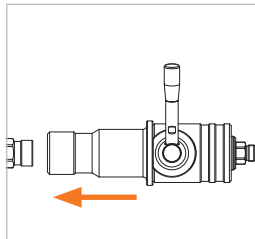

Figure 3
- ▶ Push the fueling nozzle onto the receptacle on the vehicle until it stops and hold the nozzle in this position (OFF position) (*Figure 3*).